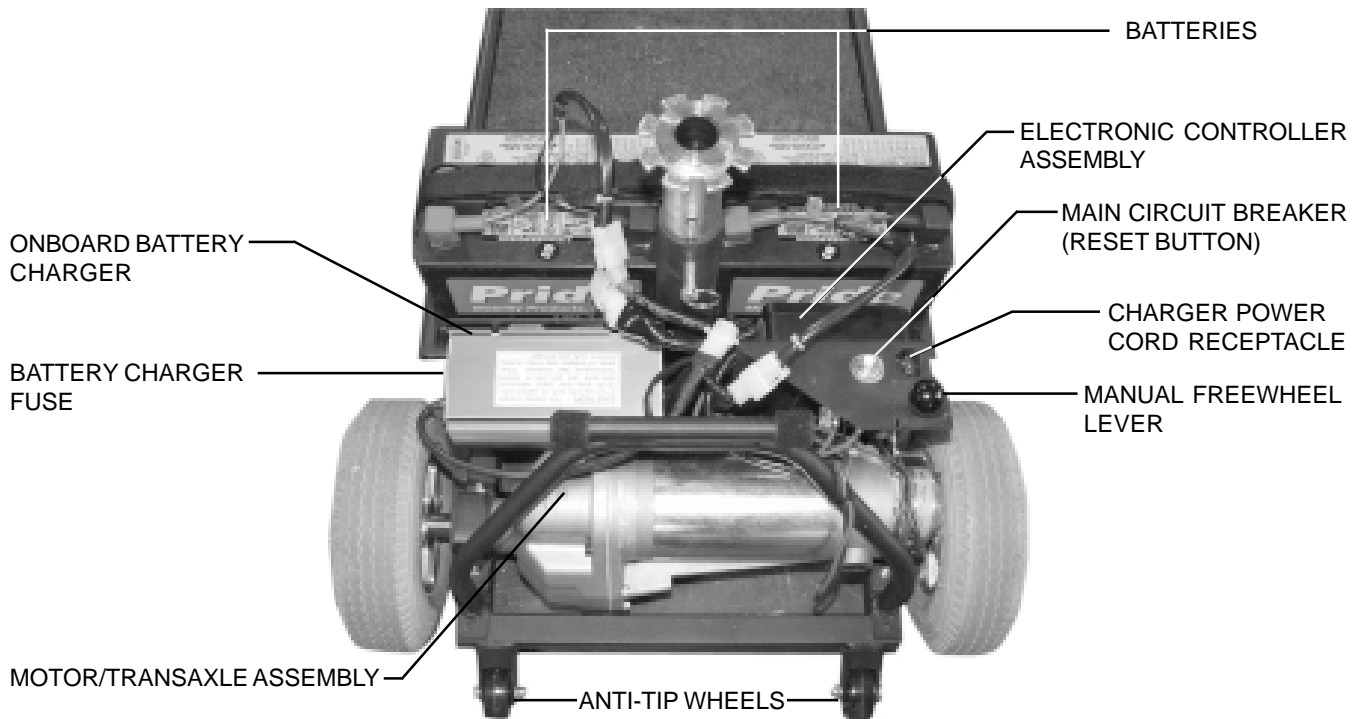

FIGURE 7. REAR SECTION
The onboard battery charger, the charger power lead receptacle, the battery charger fuse, the batteries, the electronic controller assembly, the main circuit breaker, the manual freewheel lever, and the motor/transaxle assembly are located on the rear section of your scooter. See VIII. “Disassembly and Assembly” for instructions on removing the rear shroud. The anti-tip wheels are at the rearmost part of your scooter. See figure 7.
- The charger power lead plugs into the battery charger by means of a receptacle located on the rear section of your scooter, near the manual freewheel lever and the main circuit breaker reset button. See figure 7.
- The main circuit breaker is mounted on the rear section of the scooter, near the manual freewheel lever. See figure 7.
- The manual freewheel lever is located on the end of the motor/transaxle assembly at the left rear of the scooter, and extends through the rear shroud. See figure 7.
The motor/transaxle assembly consists of a geared transmission and differential. This one piece, direct drive, fully sealed assembly provides quiet operation with maximum power and long life. See figure 7.